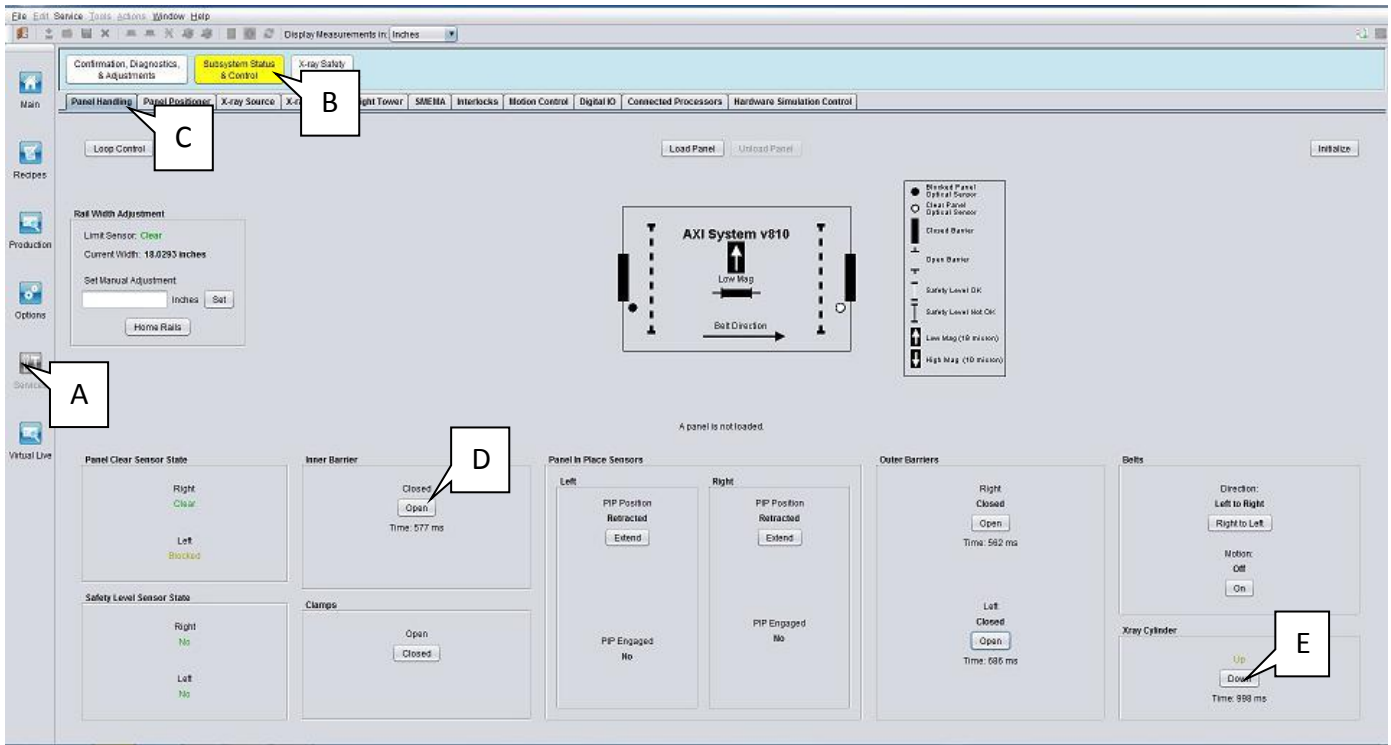

Figure 30 Panel Handling
37. Go to Panel Handling tab, trigger tube cylinder to “Up” position as figure 30.